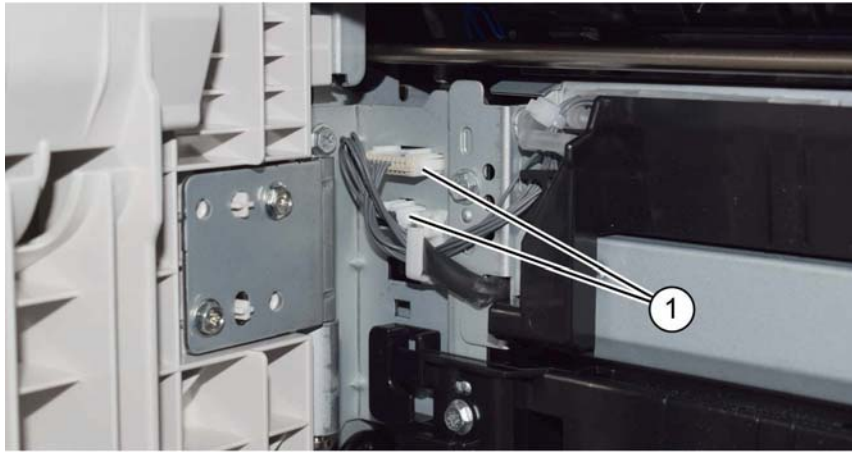

Figure 2 Connectors
5. Disconnect 2 connectors (1), Figure 2.